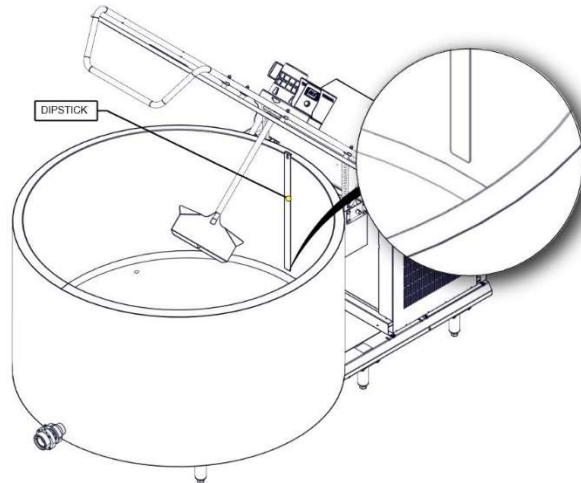

Figure 5: Tank leveling process. Stage 2A
4. Once the water surface has completely settled, insert the metal dipstick into the designated point, as shown in Figure 5, and measure the water level.